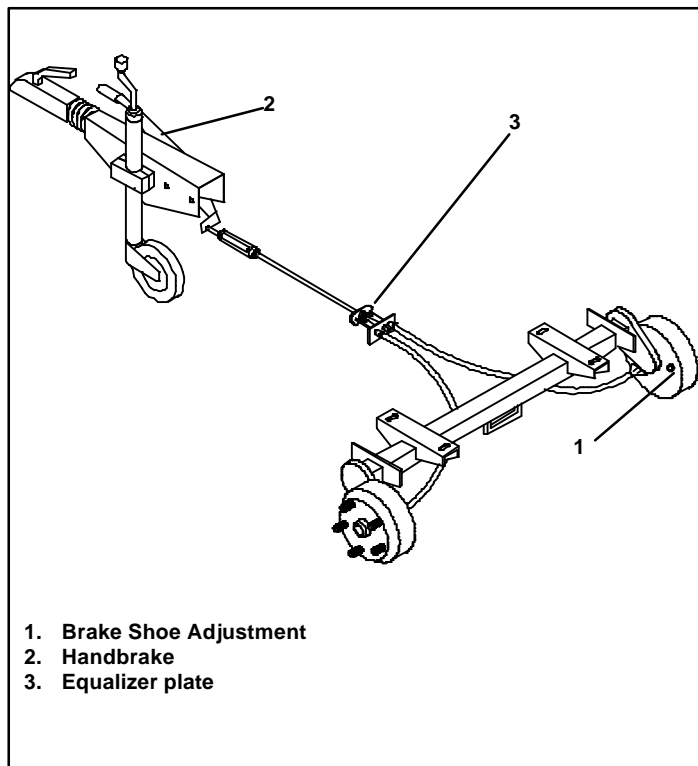
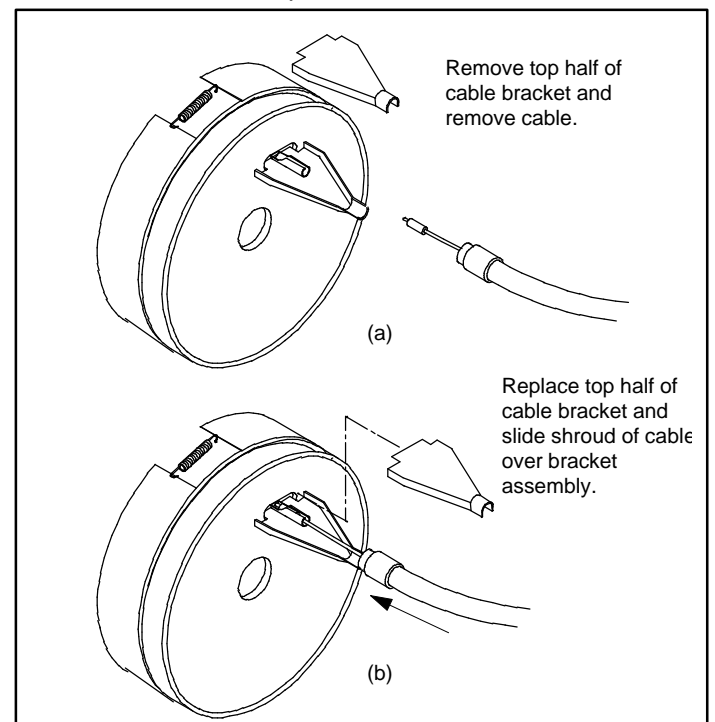

Figure 4-11: Braking Arrangement
Figure 4-12: Replace Brake Cable
2. Slacken the brakes by turning the hexagon adjusting nut (Figure 4-11 item 1) anticlockwise.
- 3.. Rotate wheels in the forward direction (clockwise on the right hand side of trailer, anti clockwise on the left hand side) and tighten adjustment nut (Fig. 4-11 item 1) in a clockwise direction until hubs will no longer rotate.
2. To change the cable, slacken and drop cable end from the Equalizer plate (Fig. 4-11 item 3) and detach cables from drum as shown in Figure 4-12 (a) .